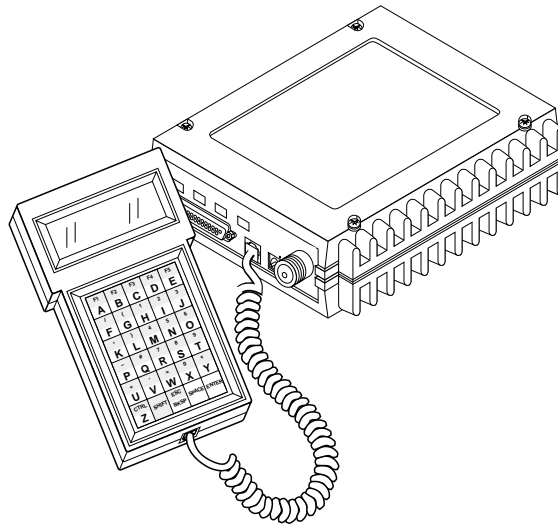

Figure 9. Hand-Held Terminal Connected to the Transceiver
1. Connect the HHT's coiled cord to the DIAG. (RJ-11) jack on the radio as shown in Figure 9. This automatically places the radio into the control and programming mode.